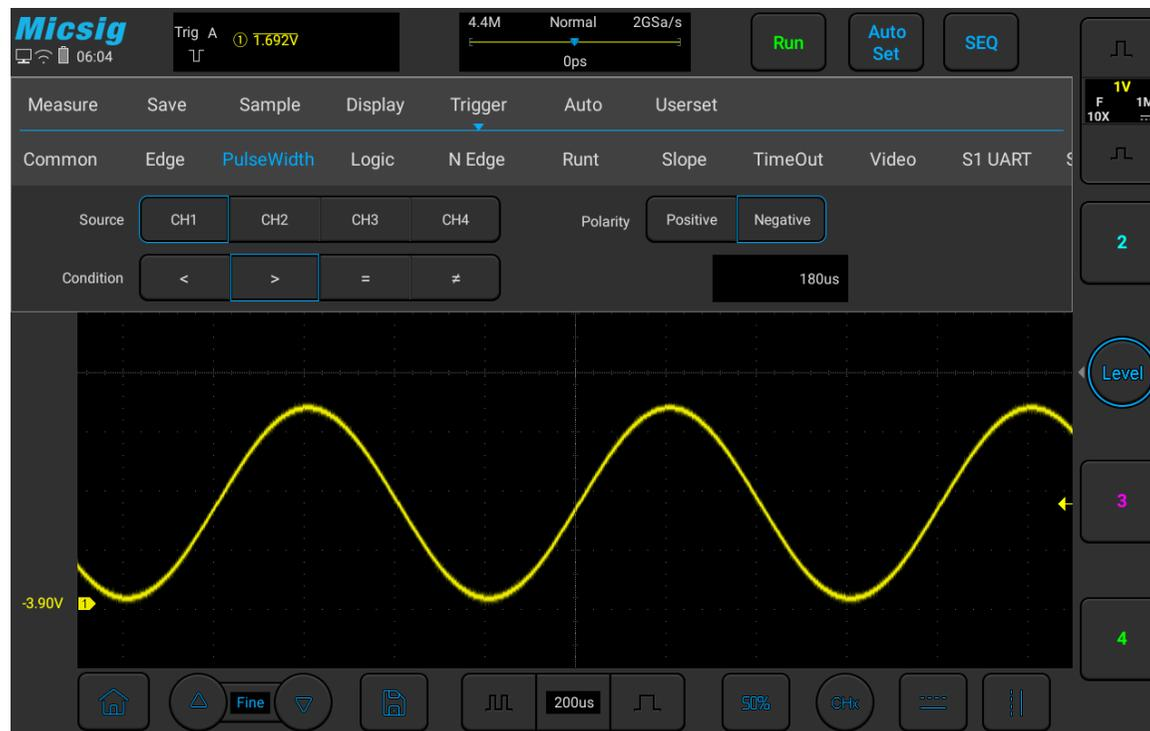

Figure 5-15 Negative Polarity Pulse Level Flip
lower than current trigger level (CH1 negative pulse indication icon  $\square \sqcup$  ① 1.00V). When triggered on positive polarity pulse, if the restrictions are true, the trigger will happen on the high-to-low transition of the pulse; when triggered on negative polarity pulse, if the restrictions are true, the trigger will happen on the low-to-high transition. (Figure 5-15 Negative Pulse Level Flip)